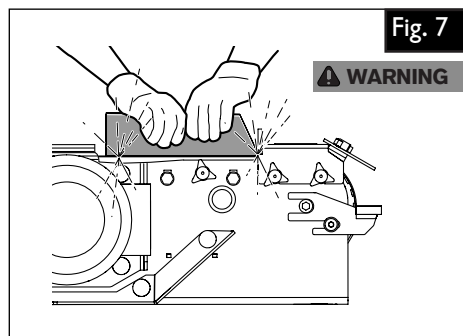

Fig. 7
9.6 Face grinding (Figure 7).
- Make sure that the gap size is correctly adjusted. (Figure 7)
- Guide the workpiece with both hands and remove it to upward after the working procedure. (Figure 7)